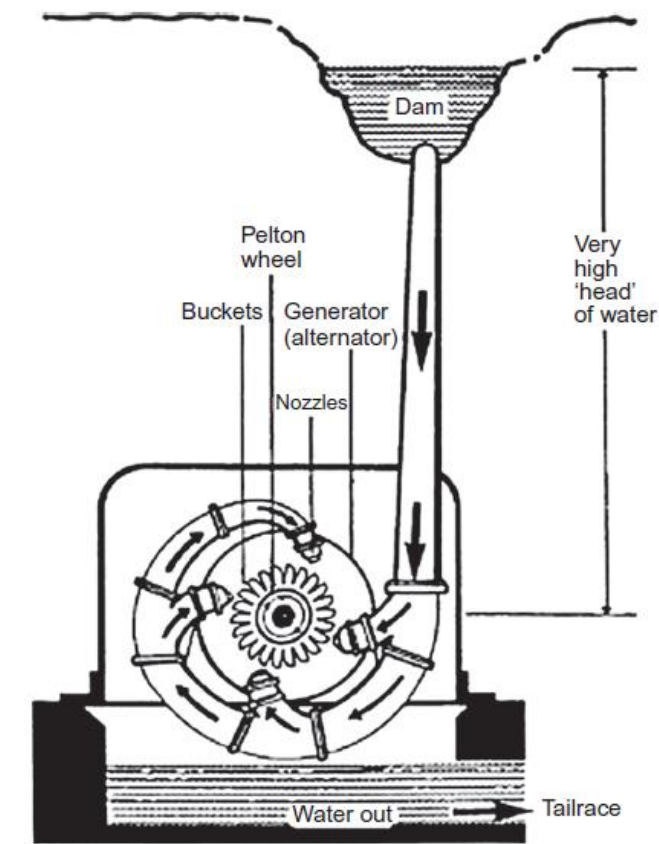

Figure A.11 Layout of a pelton wheel turbine.
**Pelton Wheel:** Pelton Wheel, invented by Lester Allen Pelton in 1880, is an example of an axial-flow impulse turbine where a fall in pressure of liquid takes place only in the nozzles of the machine, but remains unchanged while flowing through the rotor. It is of relatively low (specific) speed (between 11 and 27 rpm) [8], suitable for high heads (100-1700 m), low flow applications, and receives water supply directly from the pipeline. Pelton wheels generally receive water from reservoirs with downward gradients up to 2,000 meters (Figure A.11). The wheel is built in such a way that on the periphery of its runner spoon-shaped buckets or cups are fitted. After passing through nozzles the water strikes these buckets, which in turn results in rotating the shaft to produce mechanical energy. This energy is then converted to electric power.